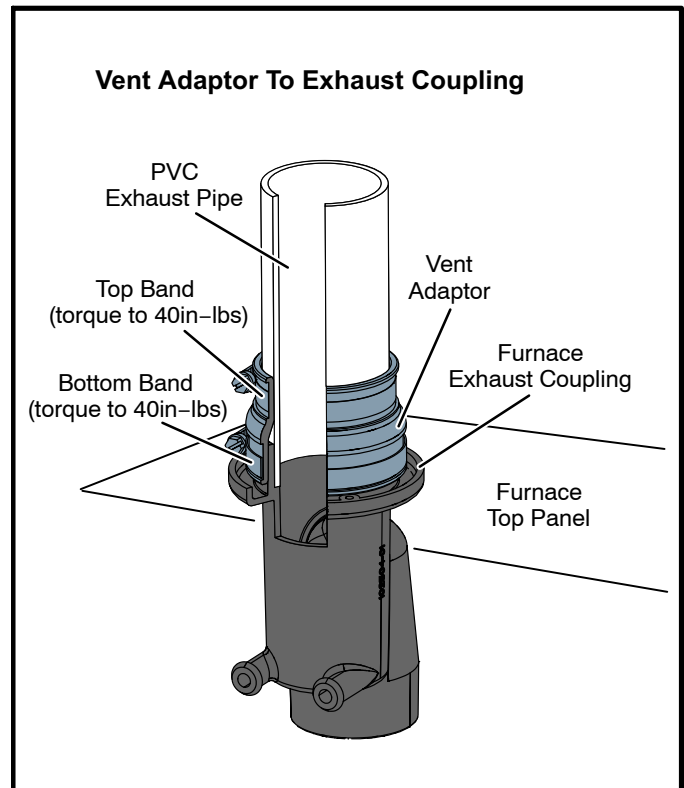

FIGURE 19
NOTE - Exhaust coupling must be installed with provided appliance adapter. See figure 19.
Exhaust Piping (Figures 19, 20, 22 and 23)
- 4 - Tighten both top and bottom bands to 40 in lbs. See figure 19.